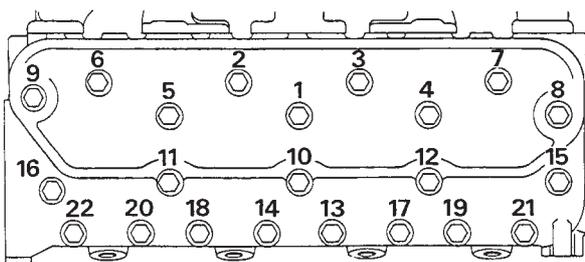

Fig.6 Head bolt tightening sequence
22. Coat all cylinder head bolts with Molycote G Rapid on the threads and under the heads, making sure the Molycote does not get on the cylinder head face. Fit the bolts according to their length; the 7 longer bolts are those numbered 9, 16, 11, 10, 12, 15 and 8 in fig.6.